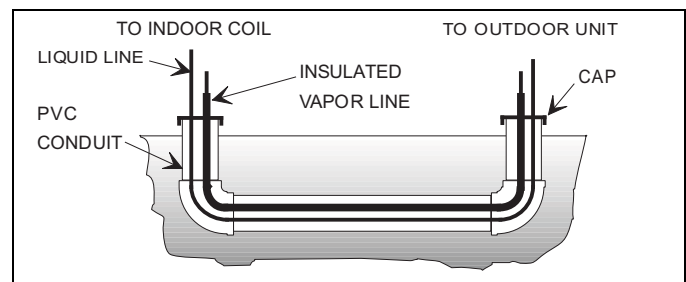

FIGURE 3: Underground Installation
6. Use PVC piping as a conduit for all underground installations as shown in Figure 3. Buried lines should be kept as short as possible to minimize the build up of liquid refrigerant in the vapor line during long periods of shutdown.